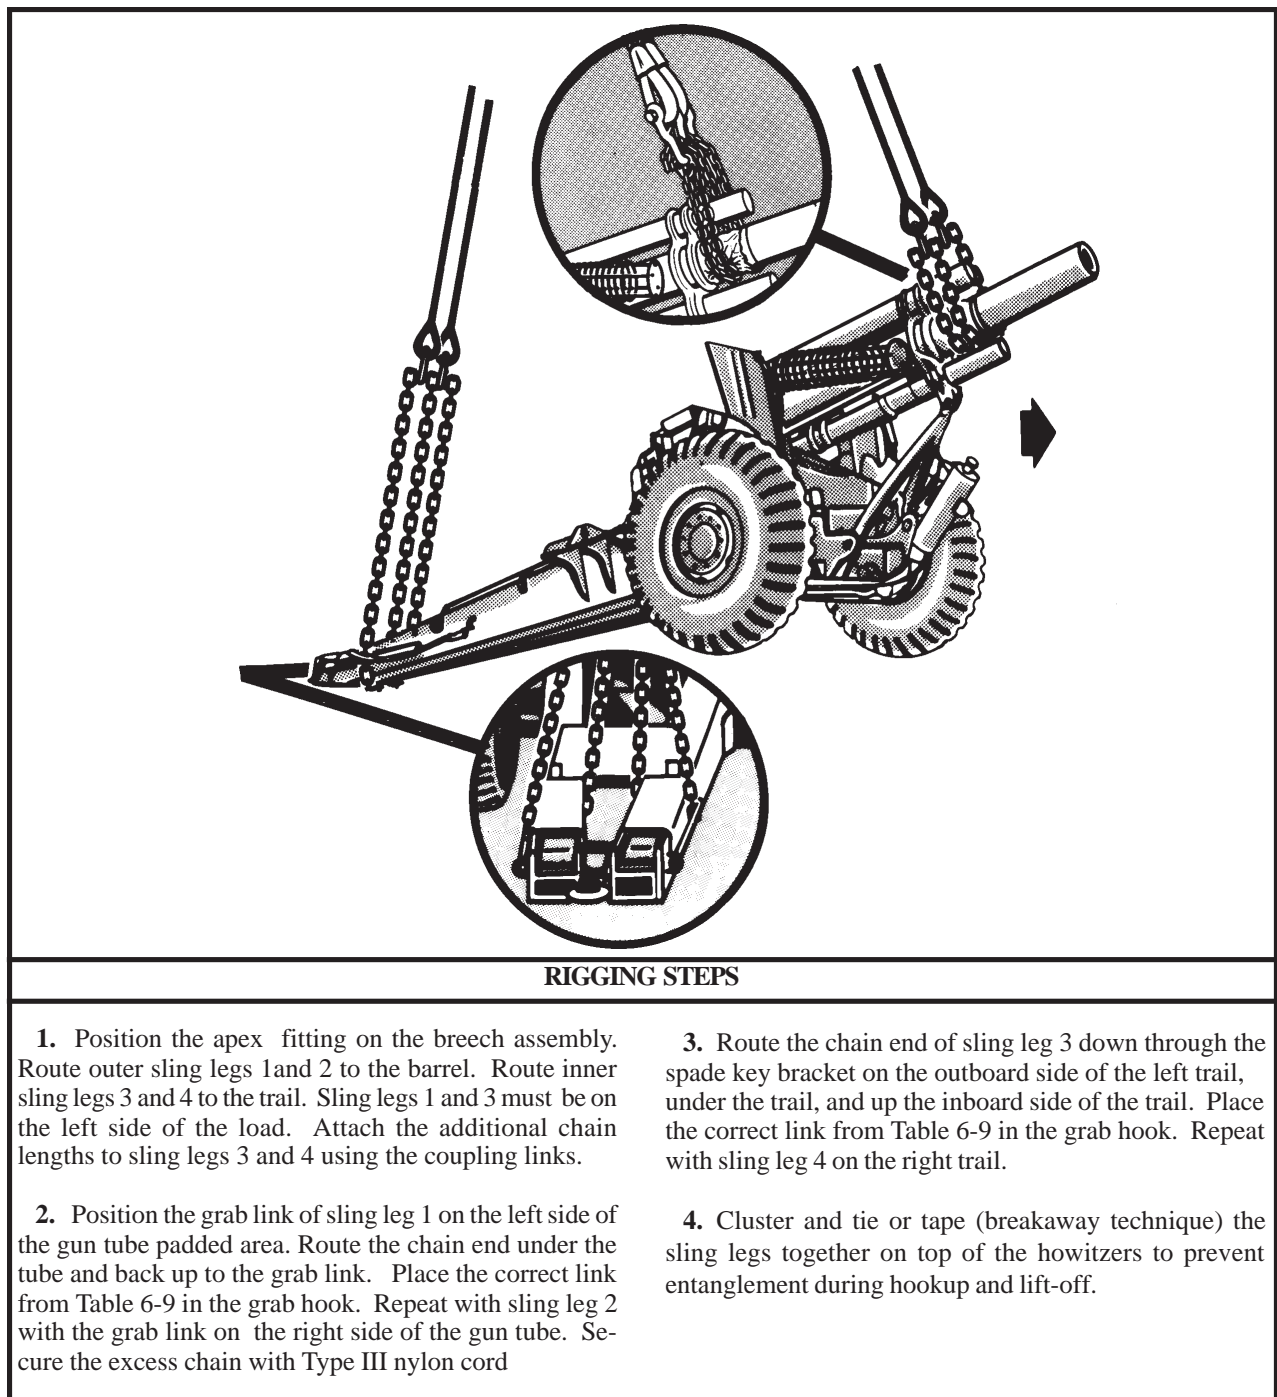

Figure 6-9. M114A2 155-MM Howitzer, Towed
(2) **Rigging.** Rig the load according to the steps in Figure 6-9.
(4) **Derigging.** Derigging is the reverse of the preparation and rigging procedures in steps d (1) and d (2).